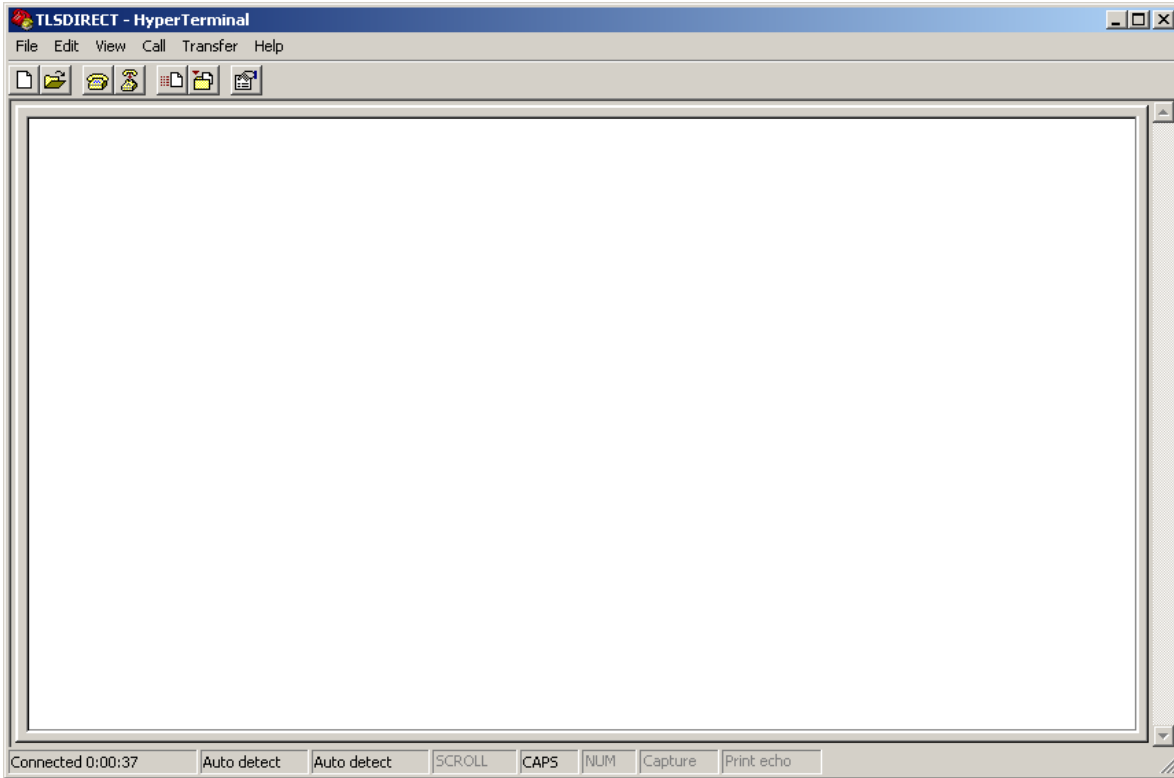

Figure 29. HyperTerminal Main Window
6. After entering your port settings, the program's main window appears (Figure 29).